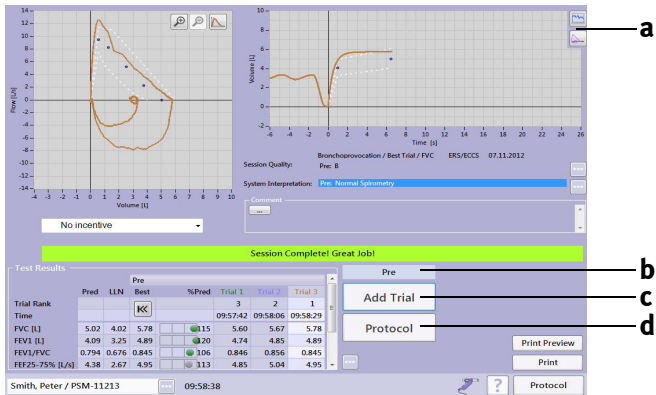

Fig. 3-24 Screen after three acceptable expiratory FVC measurements
- Click **Protocol (d, Fig. 3-24)** to display the protocol screen.
With key **a** (Fig. 3-24) you can display the test diagram (response curve) at any time during the test.